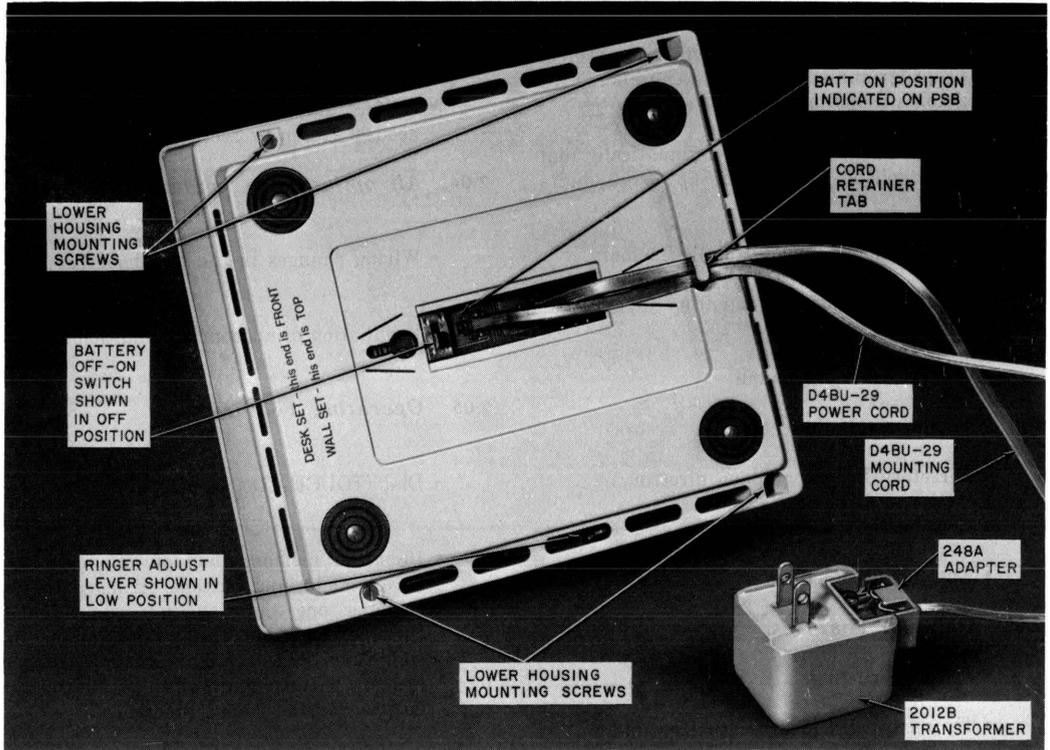

Fig. 2—2960A01M Telephone Set, Bottom View
- Battery OFF-ON switch (located on the bottom of the set, Fig. 2), should be in the OFF position when set is not in service.
- (1) Adapter, 248A (to connect D4BU modular cord to 2012B transformer) Fig. 2.
3.04 Attach 248A adapter to 2012B transformer (Fig. 2) and plug into 110-117 volt AC outlet not controlled by a switch (continuous AC power is required). Plug one end of the D4BU-29 power cord (maximum 14 feet) into the power jack on the bottom of the set (Fig. 13D) and the other end into the 248A adapter.
3.06 The set is shipped from the factory with a discharged battery installed and with the battery switch in the OFF position. After all wiring changes and modifications have been completed, tilt the set up and move the battery switch arm (now visible in the bottom view of the set, Fig. 2) to the ON position.
Note: The switch ON position is indicated on the bottom of the printed wiring board, (Fig. 2) and if switch is not placed in ON position the set will not record or automatically dial.
Note: Dress all cords under retainer tab at bottom rear of housing, Fig. 2.